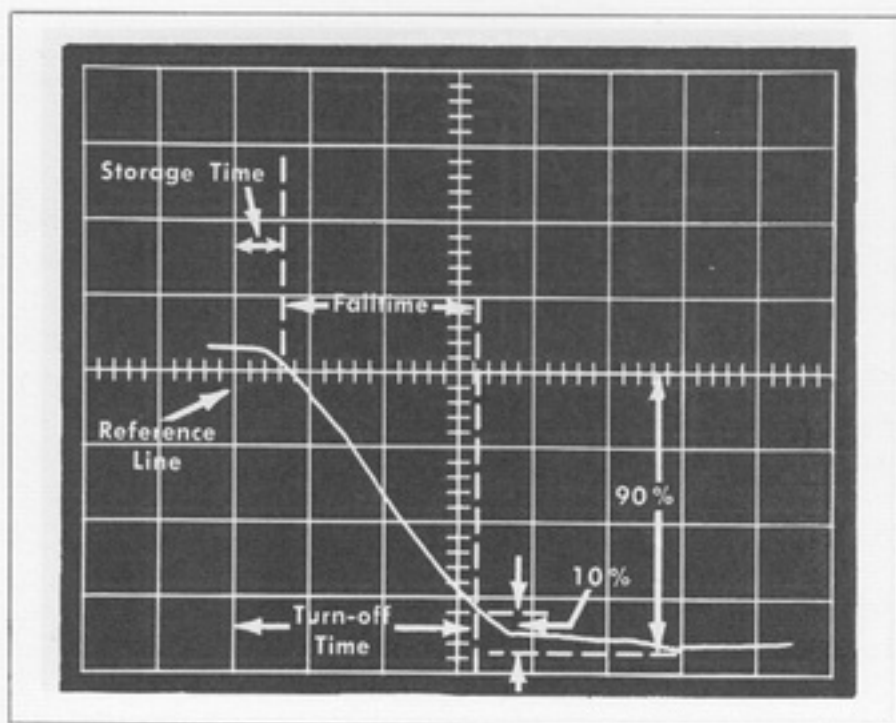

Fig. 2-13. Measuring transistor turn-off characteristics from the trailing edge of the collector output signal.
6. Turn the pulse generator on, the Type 292 center TEST VOLTS switch to NPN or PNP, the center BIAS CURRENT switch to NORMAL or INVERTED (depending on type of transistor under test), and set the oscilloscope controls for the collector output trailing-edge display similar to that shown in Fig. 2-13. Use this display to measure the transistor turn-off characteristics. (For dual-trace test